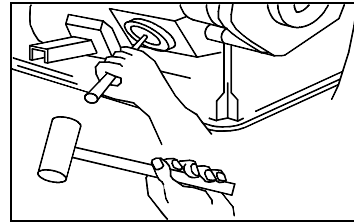

Figure 1 – Remove Core Plug
3. Remove specified core plug. Use a punch or sturdy screw driver and drive plug inward near the outer edge to cause the plug to rotate in the hole. (Fig. 1). Remove with pliers or vise-grips.